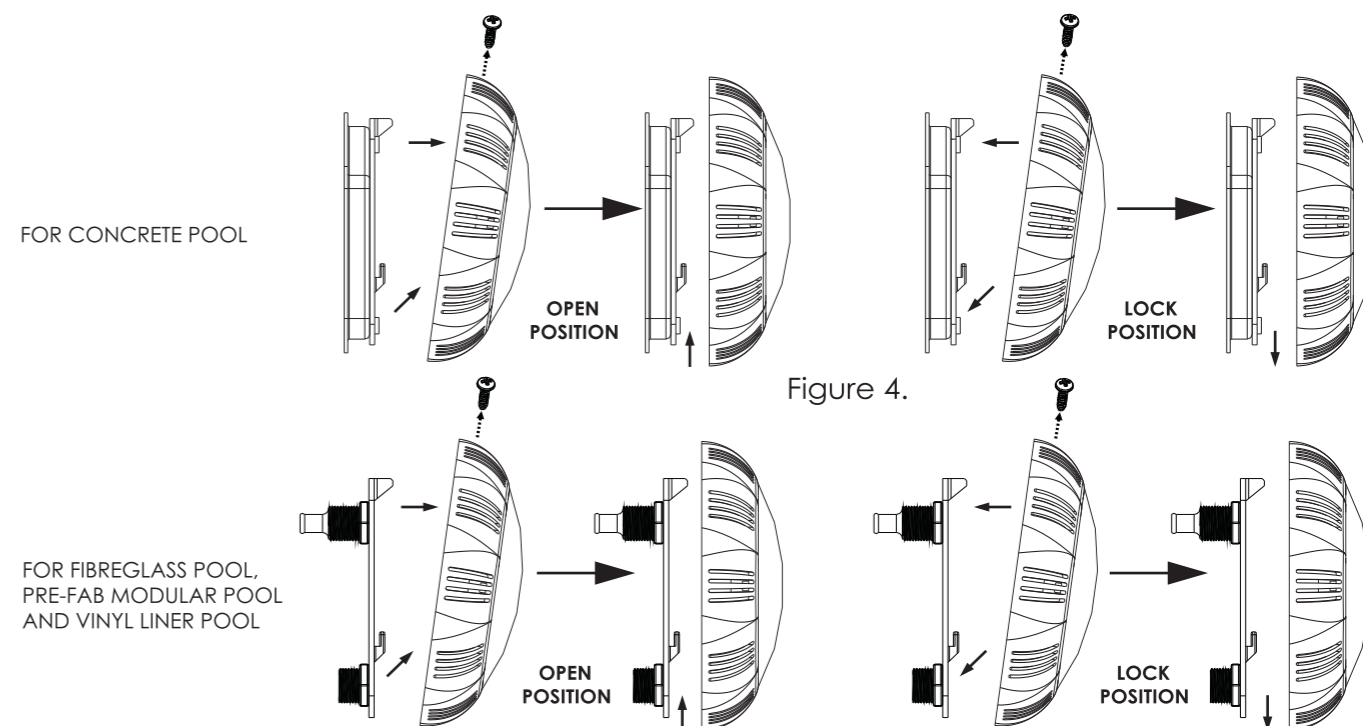

Figure 5.
- 10) Rotating Locking System ensures light is secured to bracket, see Figure 4. (Figure 5.)